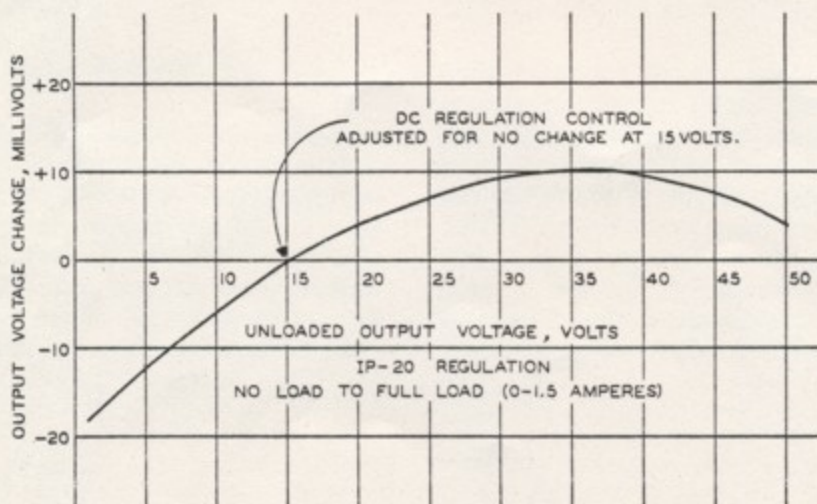

Figure 6
- () Observe the meter and alternately touch the load across the + and - binding posts and adjust the DC REGULATION control until there is no change in the meter reading as the load is connected and disconnected from the binding posts. This setting will give the regulation characteristic shown in Figure 6.